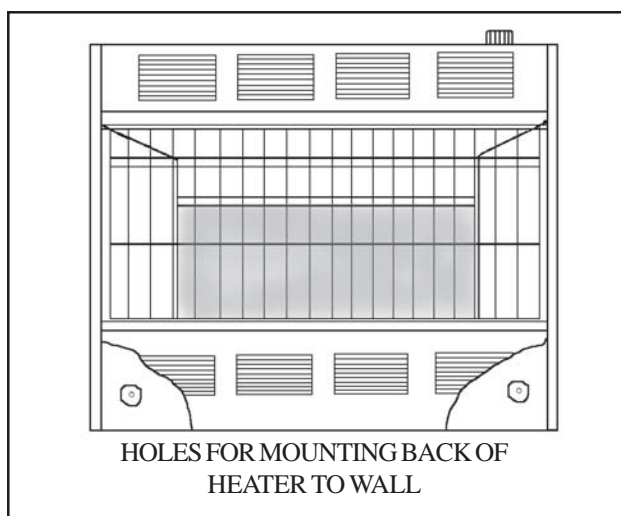

FIGURE 3
**STEP 6.** Secure back of heater to wall, utilizing anchors (if necessary) or wood screws. See Figure 3.